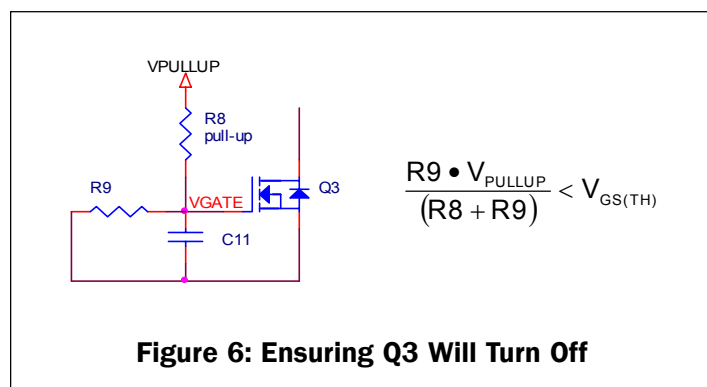

Figure 6: Ensuring Q3 Will Turn Off
- 1) V_{GATE} must be below the gate threshold voltage of the MOSFET in order to ensure that it can be turned off (see Figure 6):